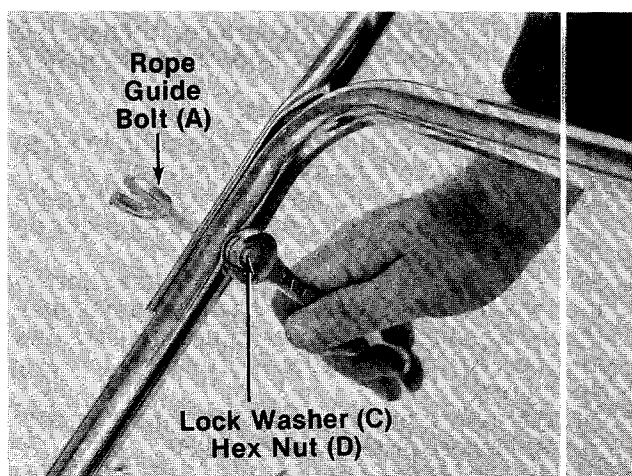

FIGURE 3.
4. Place the upper handle in position over the lower handle. The throttle control must be on the left hand side of the handle. Secure the right hand side of upper handle using the rope guide bolt (A), lock washer (C) and hex nut (D) as shown in figure 3.